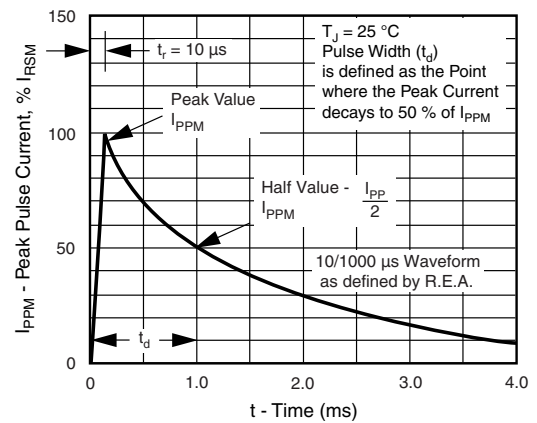
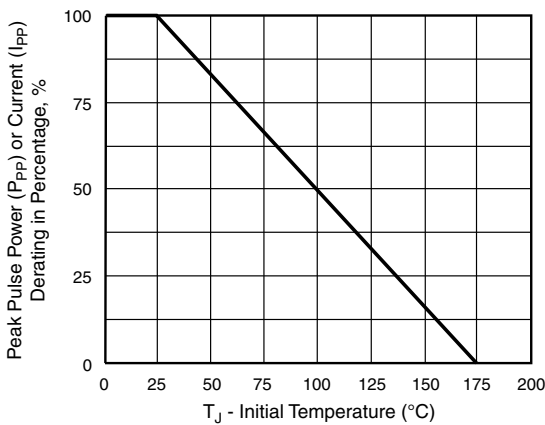

Fig. 3 - Pulse Waveform
Fig. 2 - Pulse Power or Current vs. Initial Junction Temperature
(1) Non-repetitive current pulse, per fig. 3 and derated above  $T_A = 25$  °C per fig. 2
**Notes**(1) Pulse test:  $t_p \leq 50$  ms(2) Surge current waveform per fig. 3 and derate per fig. 2(3) All terms and symbols are consistent with ANSI/IEEE CA62.35